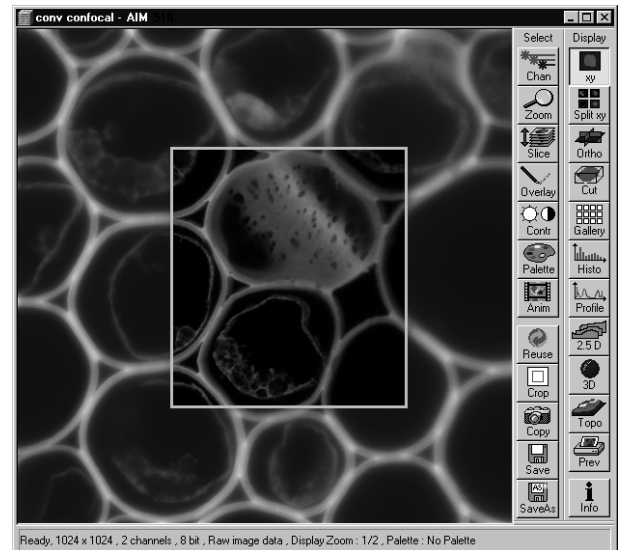

Fig. 4-328 Image Display window with confocal ROI
- The influence of the pinhole diameter on image creation is shown by the example in Fig. 4-328. The entire image was first scanned with too large a pinhole diameter. The pinhole diameter was then optimized for a defined ROI. This considerably improved the display of the specimen structures.